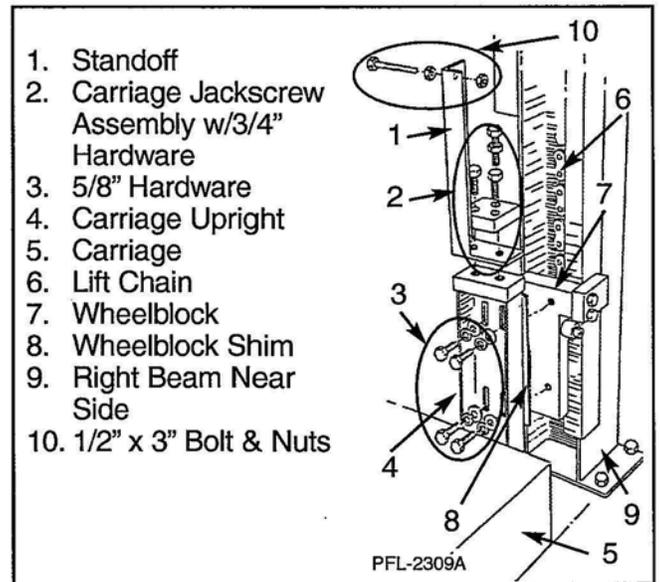
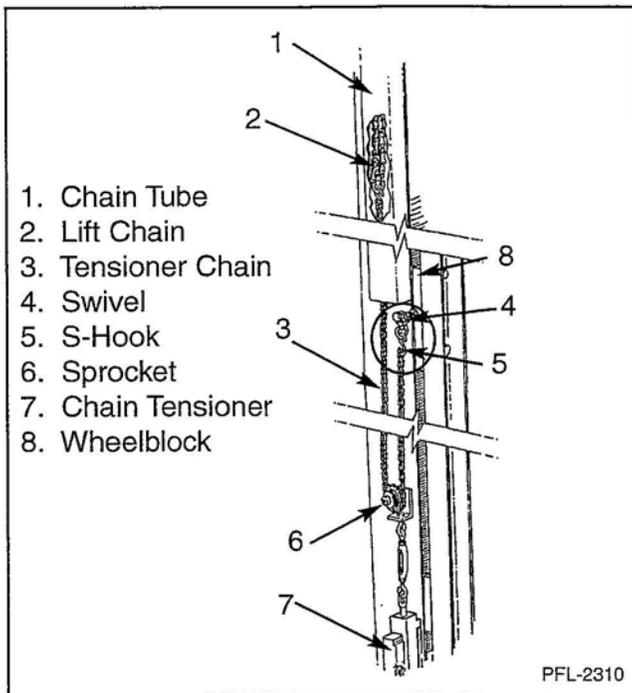

Figure 28
Figure 29
28. Bolt carriage jackscrew assembly to all four carriage uprights as illustrated. See Figure 28. (If you have decklocks or extra long uprights, you may not have standoffs or this style jackscrew assembly.) If standard options are not provided, see Figure 29.
31. Thread the tensioner chain (one end is attached to lift chain) around the sprocket on the chain tensioner and back up to the wheelblock standoff. (Both eye bolts on the turnbuckle should be backed out to allow maximum adjustment.) Pull excess slack out of the tensioner chain, break chain, and fasten to swivel and S-hook on 1/2 inch bolt. See Figure 29.
32. Take S-hook and swivel and place on bracket. See Figure 29. Place the #35 chain coming from chain tube around the sprocket and cut to length to meet the swivel. Attach to swivel.